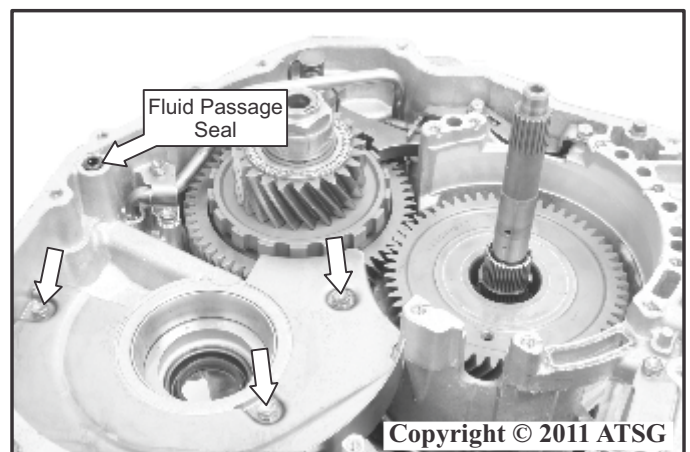

Figure 37
43. Remove the three transmission fluid baffle retaining bolts as shown in Figure 37.
44. Remove the transmission fluid baffle as shown in Figure 37.
45. Remove the transmission case fluid passage seal as shown in Figure 37.